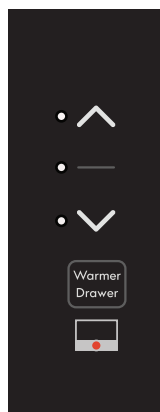

Fig. 22 Warmer Drawer control with three temperature settings
1. Press the **warmer drawer** key. (Figure 22) The warmer drawer indicator light will turn on.